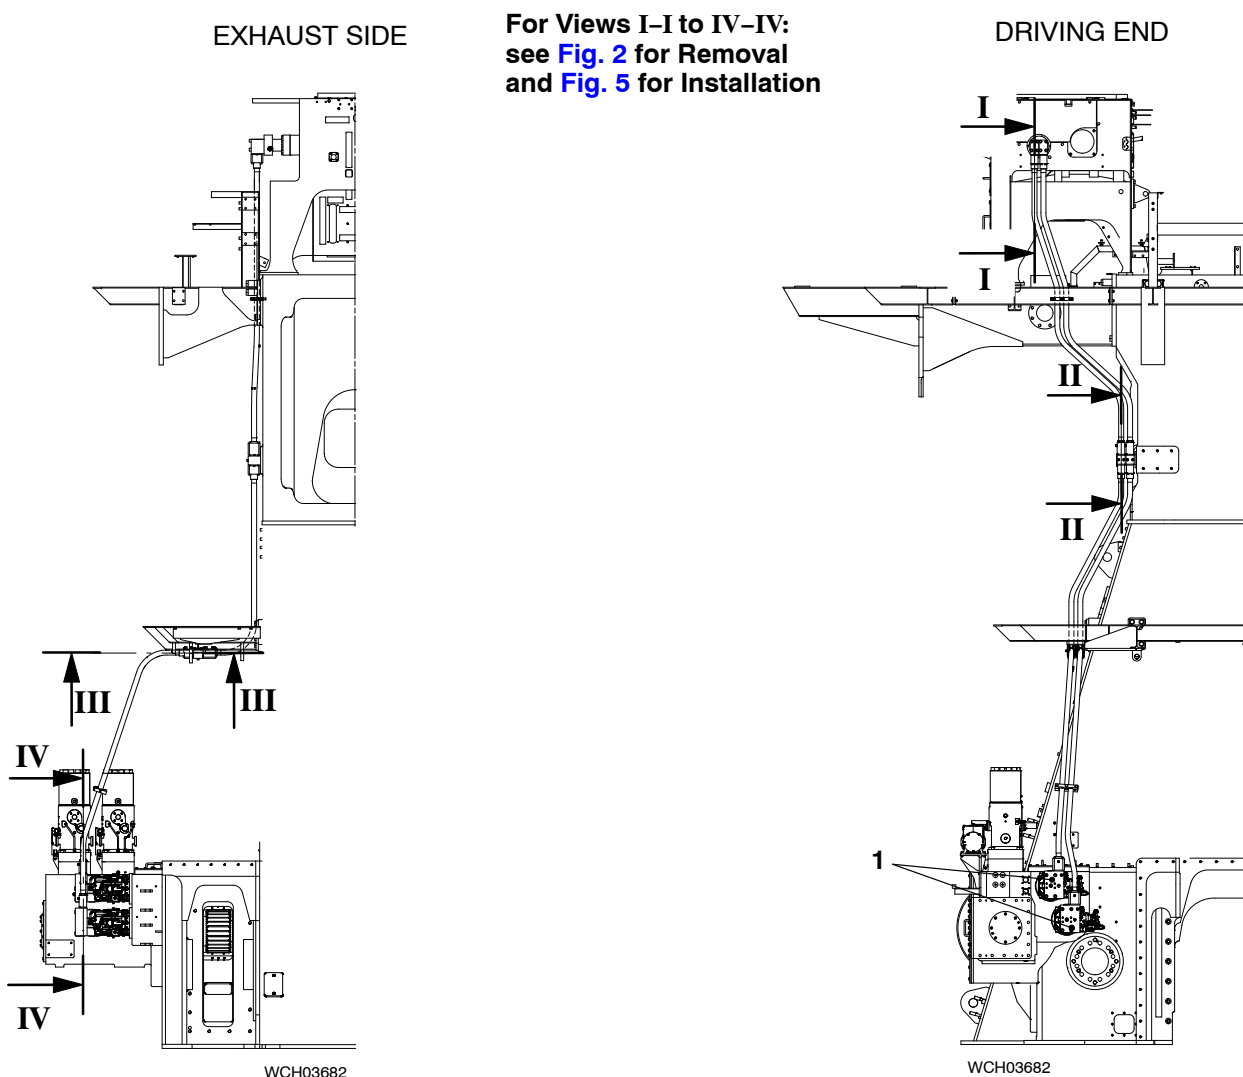

Fig. 1: Servo Oil Pipes
- 3) Put an oil tray under the applicable servo oil pump (1, Fig. 1).